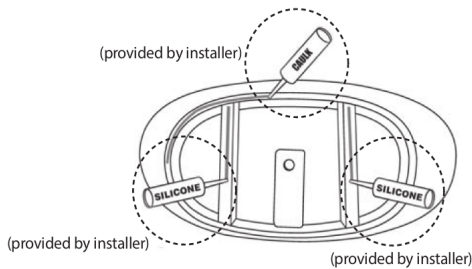

figure 12
17. Apply a generous bead of adhesive or silicone to the bottom of the tub supports (figure 12).
18. Then apply a bead of tub and tile caulk around the edge of the base (figure 12).